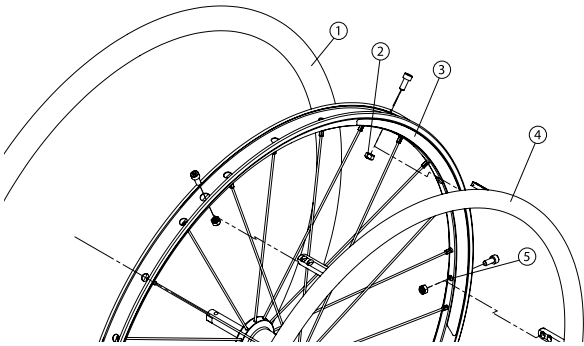

Fig. 34
- Use a plastic tire removal tool to take off the tire (1) (Fig. 34).
- Remove all nuts (2) inside the rim (3).
- Replace the handrim (4) with a new one and align the mounting holes (5).